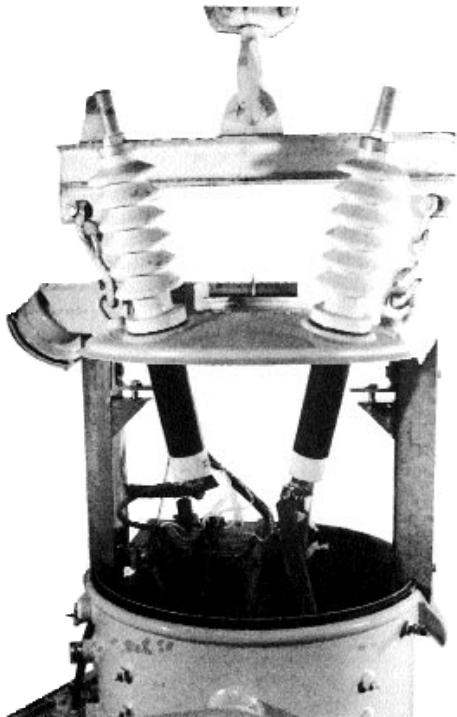

Figure 1-7
5. Attach sling or hooks with spreader bar (Figure 1-7) to lifting eyes and raise the cover, with the attached core-and-coil assembly, until the top of the coil is approximately one inch under oil. The control cabinet should be guided to avoid snagging during lifting.